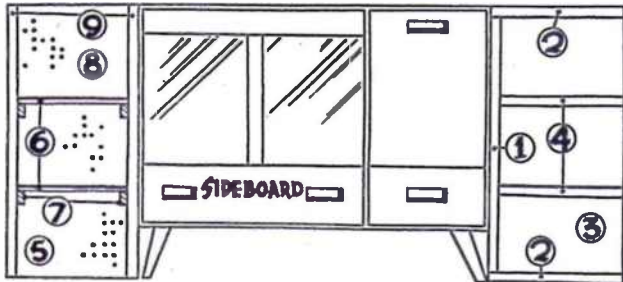

Fig. 2
The low partition is shown in Fig. 2. It consists of three units including the sideboard. Here again butt joints are used and details of construction are shown in Figs. 3 and 4. There is an alternative method of making the shelves (4) shown in Fig. 4. They can be halved into the upright (3) if desired. Otherwise make the upright (3) in three separate pieces and secure with glue and with nails through piece 1.